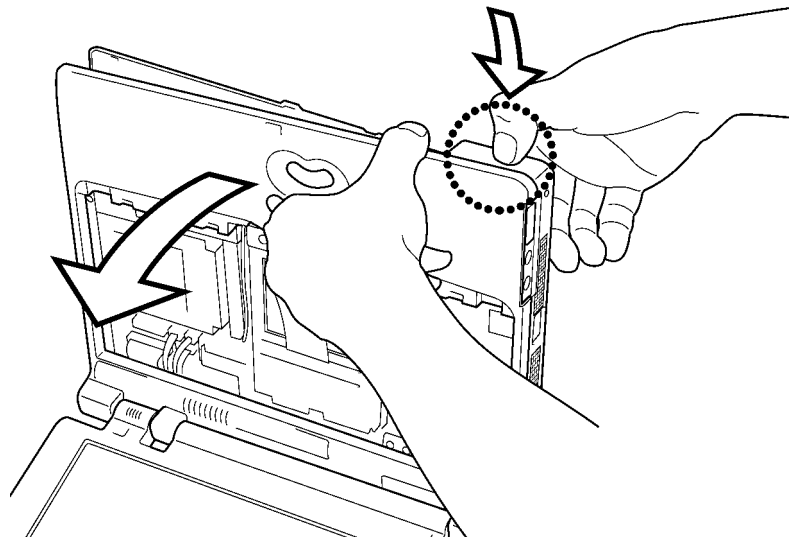

Figure 4-17 Separating the top cover and display assembly
7. Stand the computer on end as shown in Figure 4-17 and release nine latches securing the top cover. Begin with the latches along the front edge as shown.
To install the top cover and display assembly, follow the steps below and refer to Figures 4-17 back through 4-15: